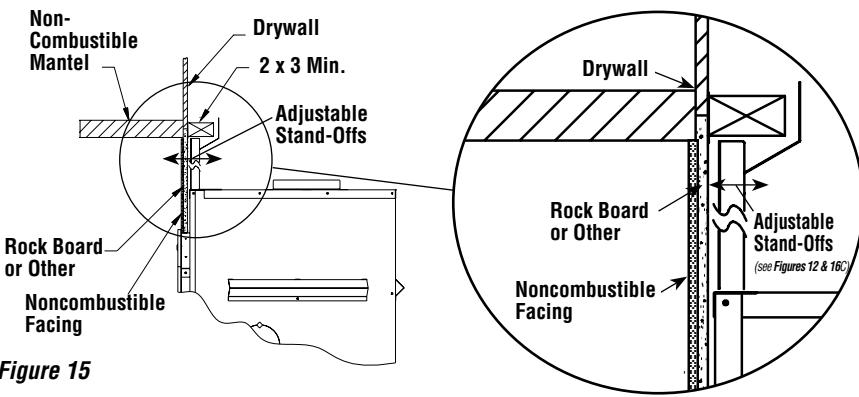

**Figure 14**
**SIDES:** Secure the sides of the fireplace to the side framing using the side nailing flange assemblies shown in **Figure 14**.